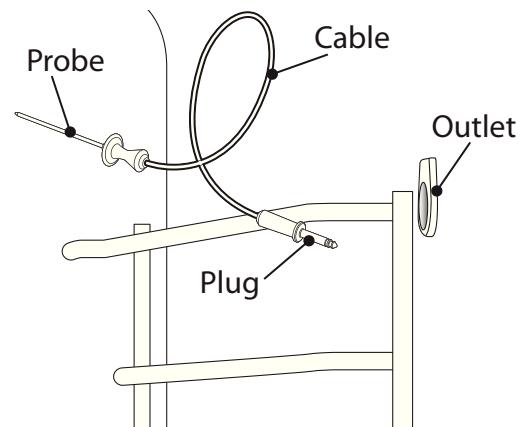

Figure 28: Meat Probe
1. In the large oven locate the outlet (*Figure 28*).